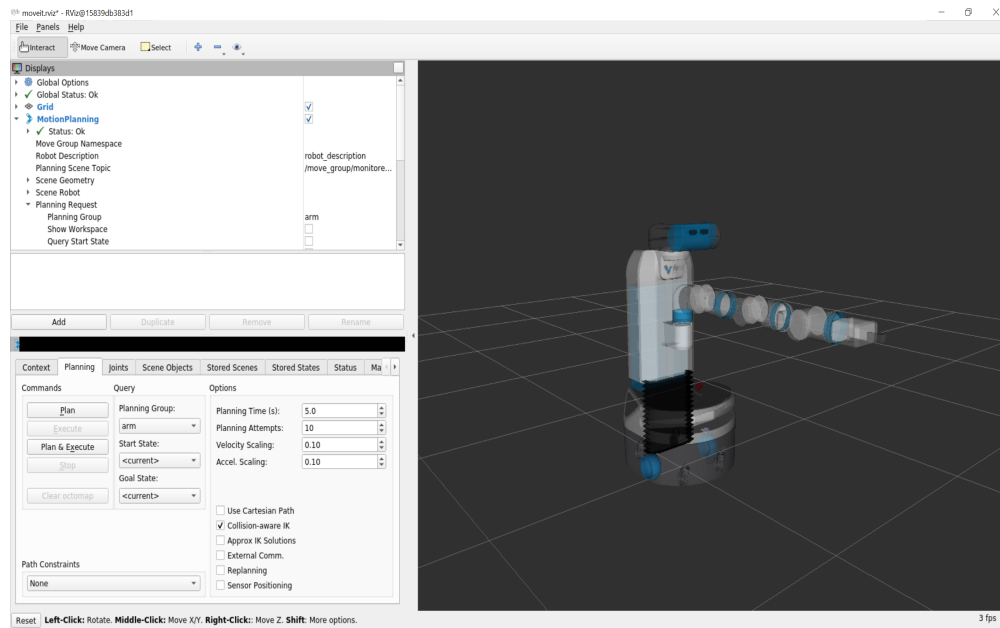

Figure 5: The Moveit Rviz Interface by launching `roslaunch fetch_moveit_config demo.launch`.
- Test your installation by running `roslaunch fetch_moveit_config demo.launch` according to <https://docs.fetchrobotics.com/manipulation.html>. You shall see the Rviz interface as in Figure 5. After the testing, you can kill this launch.